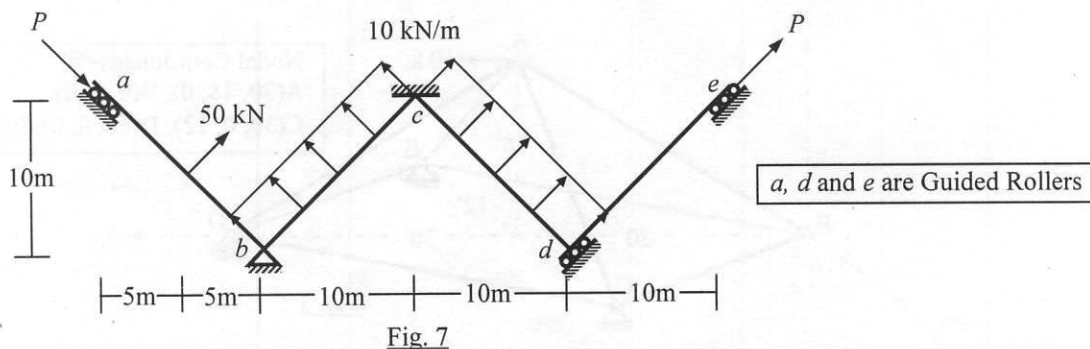

Fig. 7
10. Use Stiffness Method (considering flexural deformations, if $P = 0$) to calculate the rotation at node b and deflection at d of the frame $abcde$ loaded as shown in Fig. 7 [Given: $EI = \text{constant} = 10 \times 10^3 \text{ kN}\cdot\text{m}^2$].
11. Use Constant Average Acceleration (CAA) Method (considering flexural deformations only, if $P = 0$) to calculate the rotation at node b of the 5% damped frame $abcde$ shown in Fig. 7, at time $t = 0.01 \text{ sec}$ after starting from rest (i.e., no initial displacement and velocity), assuming consistent mass of the members, each weighing 8.0 kN/m .
- Force P needed to cause buckling of frame $abcde$ shown in Fig. 7 (considering members ab and bc),